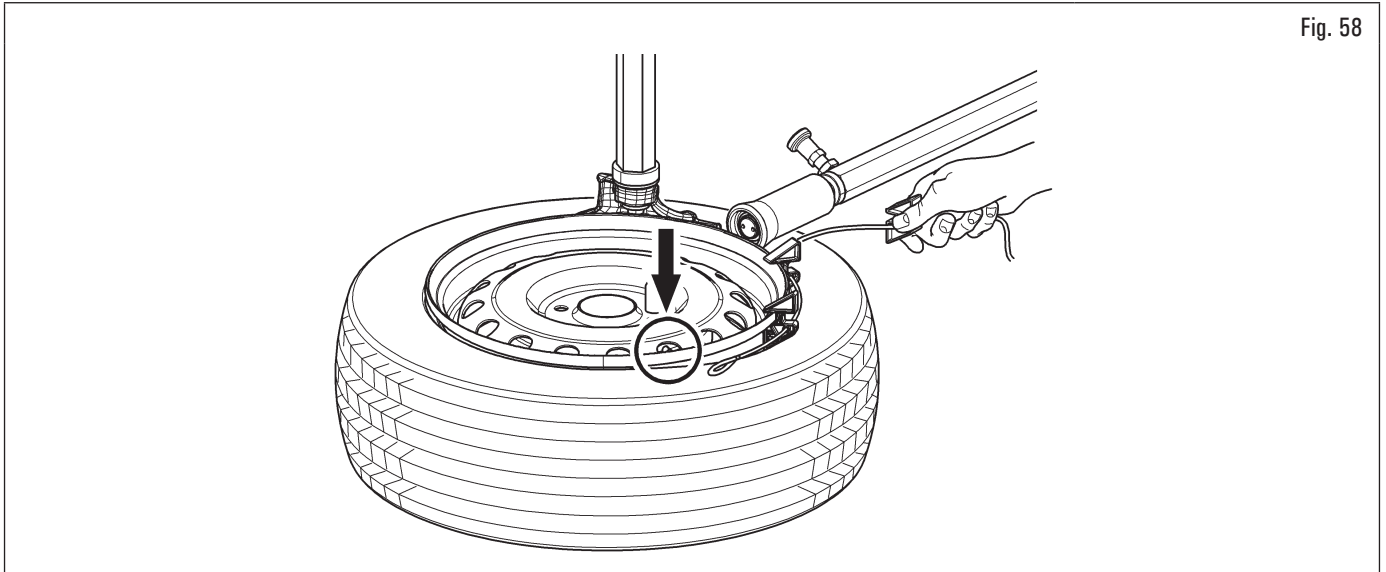

Fig. 58
4. press the rotation pedal and insert all the wedges (Fig. 58) one at a time;